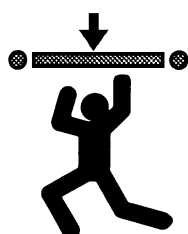

**Figure 8**
WARNING Failure to secure screws (R of Figure 8) may cause conveyor sections to drop down causing severe injury. TIGHTEN SCREWS (R) AFTER ADJUSTMENT.
- Slide boot (H of Figure 8) onto stand leg (K). Align hex nuts (Q) and boot holes and attach boot with button screws (R). Tighten button screws to 150 in-lb (17 N-m). Repeat for opposite leg.
**IMPORTANT:** Red warning area (O of Figure 8 must be under boot (H) after assembly.